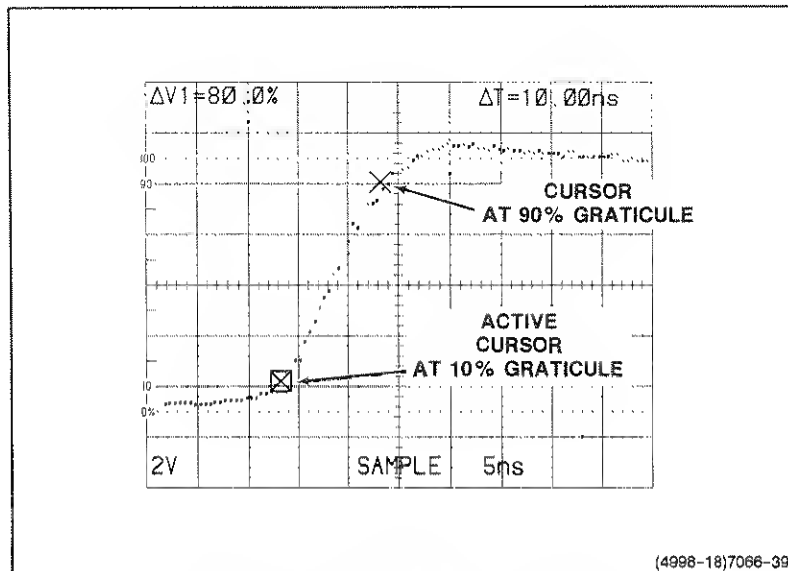

Figure 6-18. Rise time, cursor method.
9. Push in the CURSORS knob (SELECT C1/C2) to select the other knob, and use the CURSORS control to move the active cursor up the waveform's leading edge until the ΔV readout is 80% (see Figure 6-18).